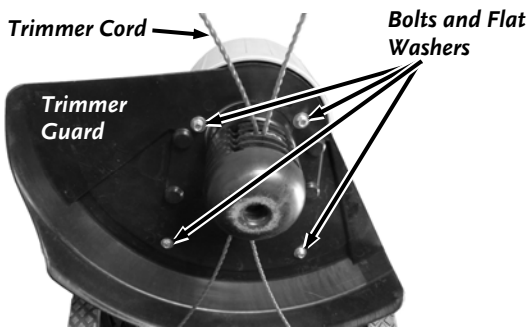

Figure 33
3. Remove the four Trimmer Guard Bolts and Flat Washers with a 3/8" Wrench. Remove the Trimmer Guard (Figure 33).
16. Position the Trimmer Guard and secure with the four Bolts and Flat Washers using the 3/8" Wrench (**Figure 33**).